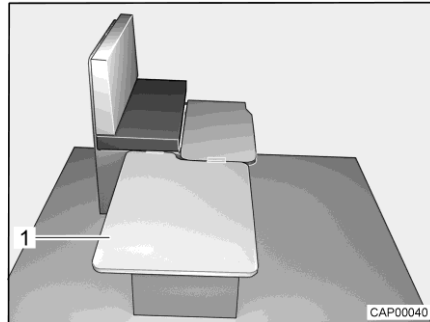

Fig. 33 During conversion
- Hook removable board (Fig. 33,1) in on the side of the bench and place it on the table.